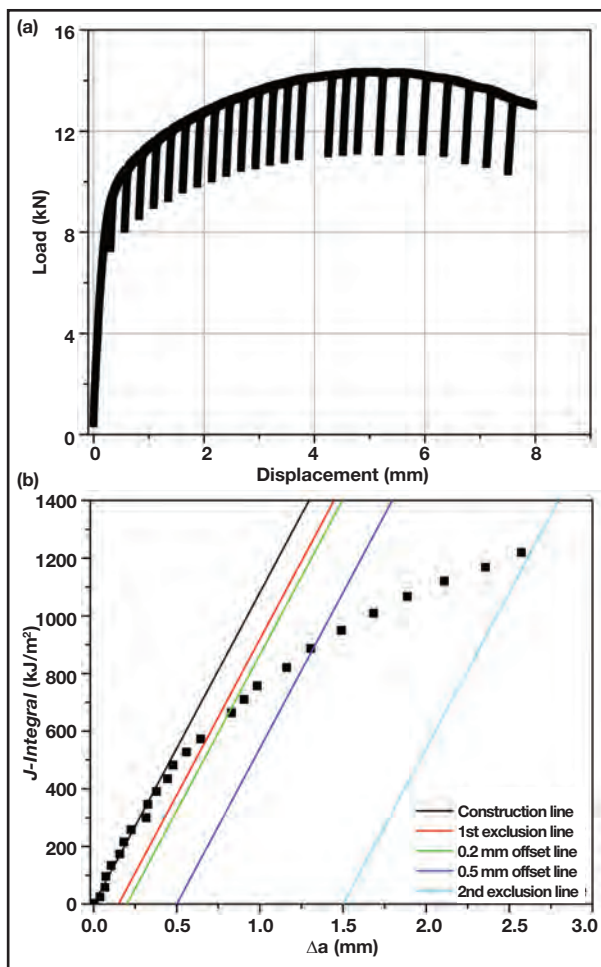

Fig. 5 – (a) Load-displacement record for a J-R curve test with elastic unloading compliance (EUC); (b) J-R data determined by EUC.
where $a_{(i)}$ is the current crack size, $b_{(i)}$ is the unbroken ligament size, B_N is the specimen net thickness, $A_{pl(i)}$ is the plastic area under the load versus load-line displacement record for the specimen, $\eta_{pl(i-1)}$ equals 1.9 for a SE(B) specimen and $(2 + 0.522b_{(i-1)}/W)$ for a C(T) or DC(T) specimen, and γ equals 0.9 for a SE(B) specimen and $(1 + 0.76b_{(i-1)}/W)$ for a C(T) or DC(T) specimen. In order to obtain the real-time crack growth value, EUC measures the material compliance (the ratio of displacement increment to force increment) by periodic unloading and reloading of the specimen. For instance, a typical load-displacement record for a J-R curve test using EUC is shown in Fig. 5(a). Each short straight line in Fig. 5(a) represents an unloading-reloading sequence. The rest of the curve resembles a load-displacement curve in a tensile test, i.e., initial elastic deformation followed by plastic deformation and load drop after passing the maximum load level. Once the material compliance value is obtained, equations in ASTM standard E1820-11^[1] can be applied to convert the compliance result to the estimated real-time crack size. Eventually, combining the *J-Integral* and crack growth results yields the J-R data as shown in Fig. 5(b).